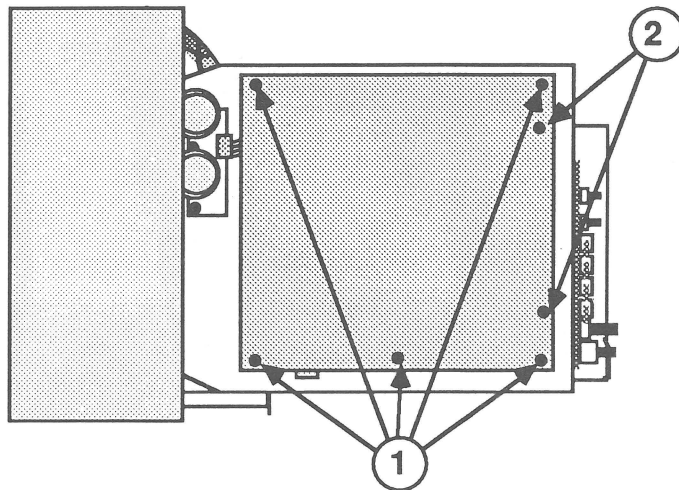

FIGURE 18
3. Using needlenose pliers, compress the plastic clamps one at a time to fit them into the corresponding holes on the board (Figure 18, #2). If there are two clamps on the chassis but only one hole on the board, remove the chassis clamp for which there is not a corresponding board hole.
4. Replace the five screws (Figure 18, #1) that secure main logic board "D" to the metal chassis frame.